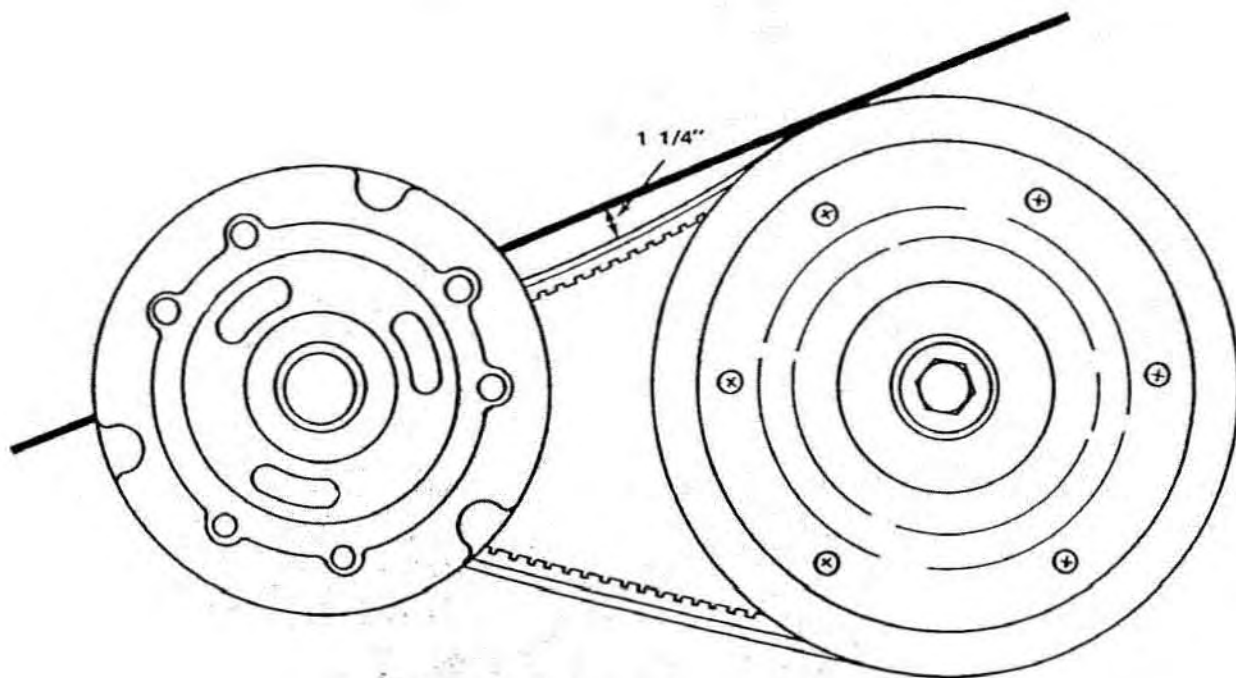

Fig. 1
1. The ideal belt slack is $1\frac{1}{4}"$, Fig. 1. To change the slack in the belt, thrust washers in the driven clutch can be added or subtracted. By the addition or subtraction of one washer in the driven clutch, the belt slack can be changed $\pm \frac{1}{8}"$.